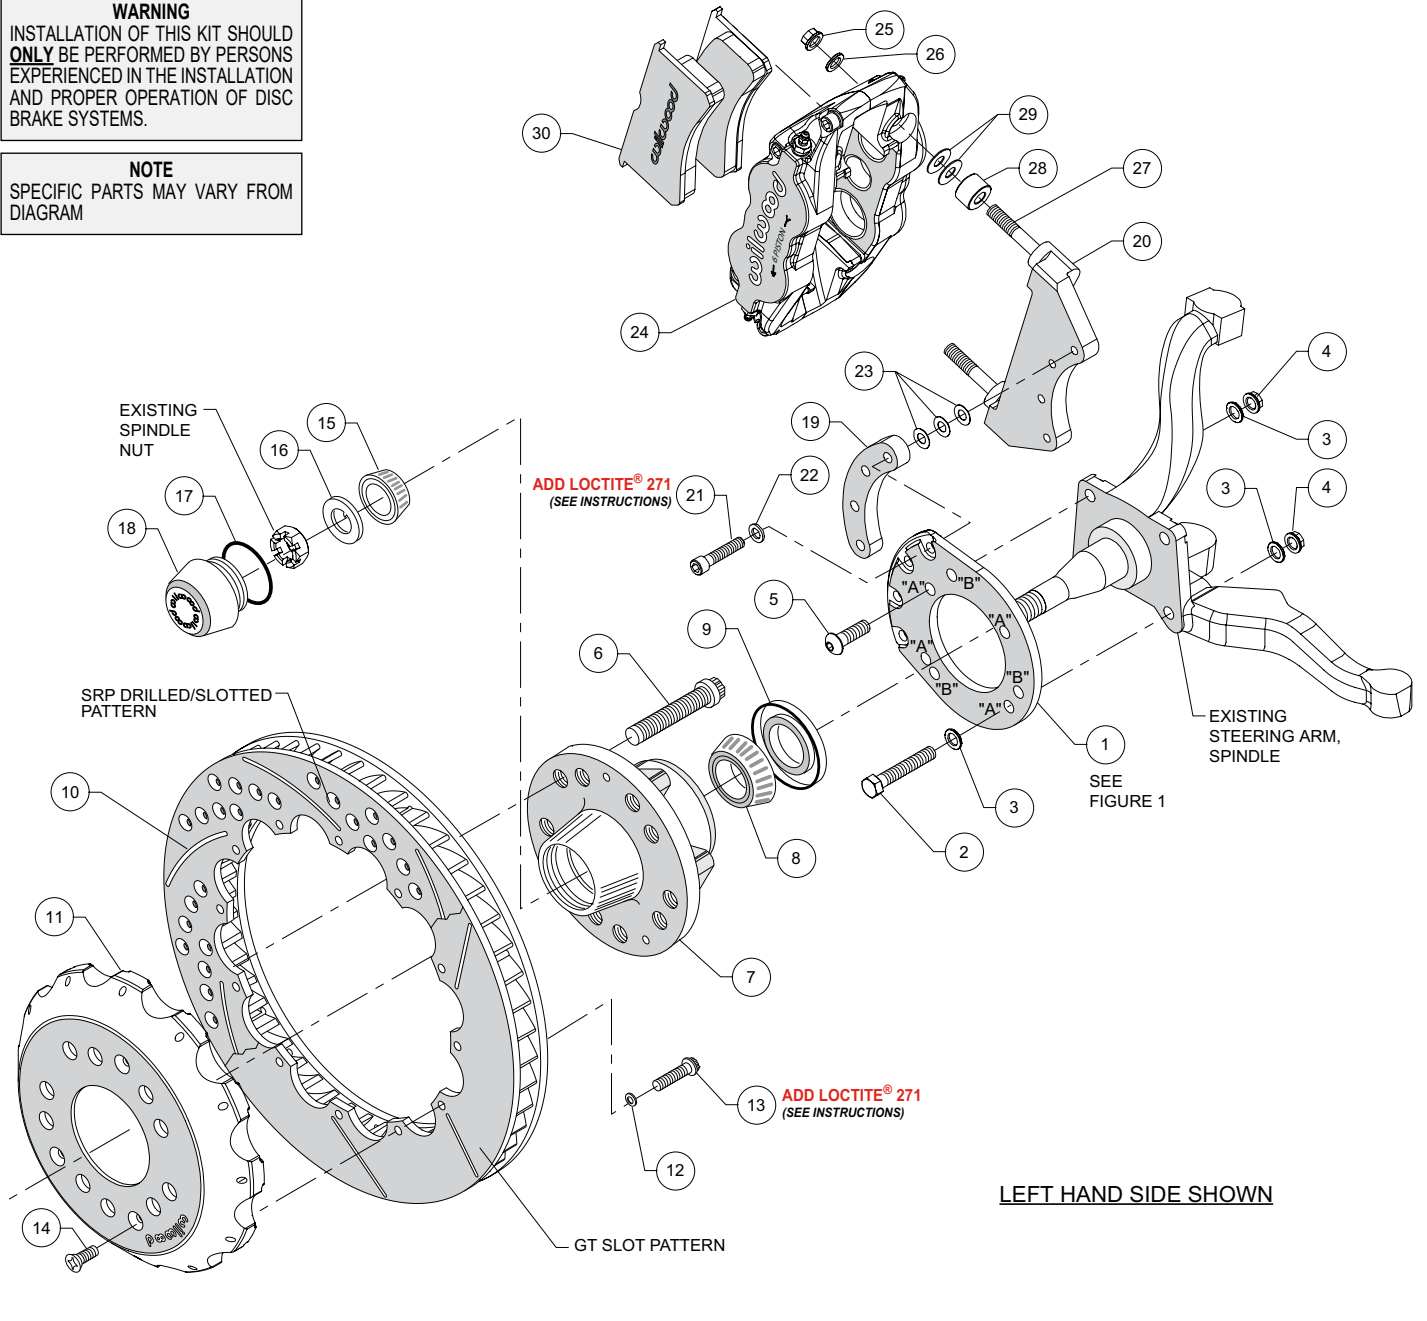

Figure 2. Typical Installation Configuration
**NOTE:** Numbers in parenthesis refer to the parts list and Figure 2 on the preceding pages.
•Align bracket, using the four "A" holes, to the face of the spindle and attach using bolts (2 and 5), washers (3), and lock nuts (4), as shown in Figure 2 and Photo 1. Temporarily tighten the mounting bolts. **NOTE:** The bracket must fit squarely against the mounting points on the spindle. Inspect for interference from casting irregularities, machining ridges, burrs, etc. Torque lock nuts (4) to 30 ft-lb.
•Install wheel studs (6) into the hub (7), Photo 2. Torque to 77 ft-lb. **NOTE:** There are two five lug patterns in the hub (5 x 4.50 and 5 x 4.75). Ensure the correct hub stud pattern is being used to fit the wheel application.
•Pack the large inner bearing cone (8) with high temperature disc brake bearing grease (available from your local auto parts store) and install into the backside of the hub (7), Photo 3.
•Install the grease seal (9) by pressing into the backside of the hub (7), flush with the end of the hub, Photo 3.
•Pack the small outer bearing cone (15) with high temperature disc brake bearing grease and install into hub (7). Slide the hub assembly onto the spindle. Secure using spindle washer (16) and OEM spindle nut, Photo 4. Adjust bearings per OEM specifications. Install saved OEM nut lock (if any) and a new cotter pin (not included).
•Screw dust cap (18) into hub (7), Photo 5. Friction created by the o-ring (17) on the dust cap keeps it from unscrewing. **NOTE:** The O.D. of the existing OEM spindle washer may be larger than the I.D. of the dust cap not allowing it to seat against the hub face. Therefore, use the spindle washer (16) supplied with the kit instead of the OEM washer.
•Orient the rotor (10) and the hat (11) as shown in Figure 2 and Photo 6. Attach rotor to hat using bolts (13) and washers (12). Apply red *Loctite*® 271 to the bolt threads and torque to 155 in-lb using a
- Slide the hat/rotor assembly (10/11) onto the hub (7) taking care to align the small countersunk holes in the hat with the small threaded holes in the hub (7). **NOTE:** *The hat must fit flush against the hub face or excessive rotor run out may result.* Install three flat head screws (14) through the small holes in the hat, Photo 5, and torque to 85 **in-lb**.
- Attach the caliper mounting bracket (20) to the spindle bracket (1) using bolts (21), washers (22), and spacer (19) as shown in Figure 2 and Photo 7. Initially place three .015" thick shims (23) on each bolt between the spacer and the caliper bracket. Temporarily tighten the mounting bolts. Later, after the caliper alignment has been checked, the mount bolts will be secured using red *Loctite*® 271.
- NOTE:** *This kit contains distinct right and left hand calipers that must be mounted in a specific direction, as described below.* Initially place two .035" thick shims (29) and spacer (28) on each stud between the caliper and the bracket, as shown in Figure 2 and Photo 8. Mount the caliper (24) onto the bracket (20) using lock nuts (25) and washers (26), Figure 2. Ensure that the caliper is mounted so the largest pistons are at the rotor exit end of the caliper, in relation to the direction of rotor rotation. Temporarily tighten the lock nuts and view the rotor through the top opening of the caliper. The rotor should be centered in the caliper, Photo 9. If not, adjust by adding or subtracting shims (23) between the caliper bracket (20) and the spacer (19). Always use the same amount of shims on each of the four mounting bolts. Once the caliper alignment is correct, remove the bracket mounting bolts one at a time, apply red *Loctite*® 271 to the threads, and torque to 30 ft-lb.